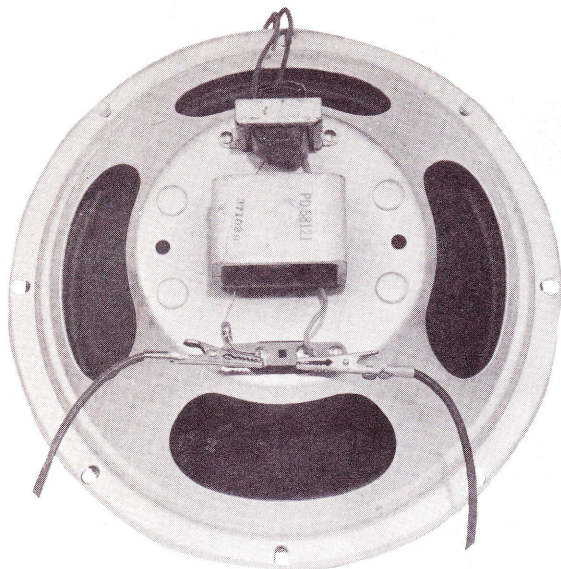

Figure 4.
1. Connect the cord clips across the voice coil terminals on the radio speaker as shown in Figure 4.